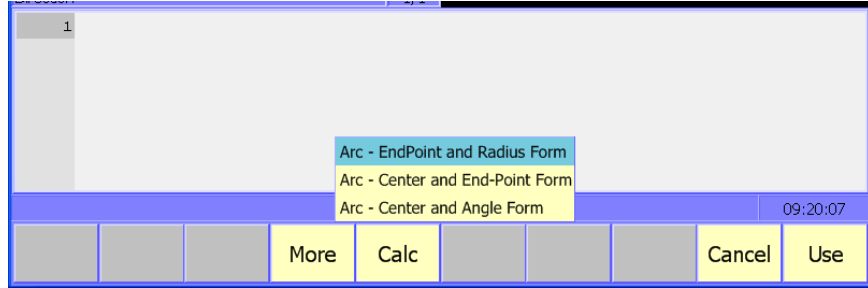

Figure 3-14, Arc More (F4) Pop-up Menu
3. Press **More (F4)** to display the More pop-up menu. Refer to Figure 3-14, Arc More \(F4\) Pop-up Menu.
2. Press **More (F4)** to display the More pop-up menu. Refer to Figure 3-14, Arc More \(F4\) Pop-up Menu.